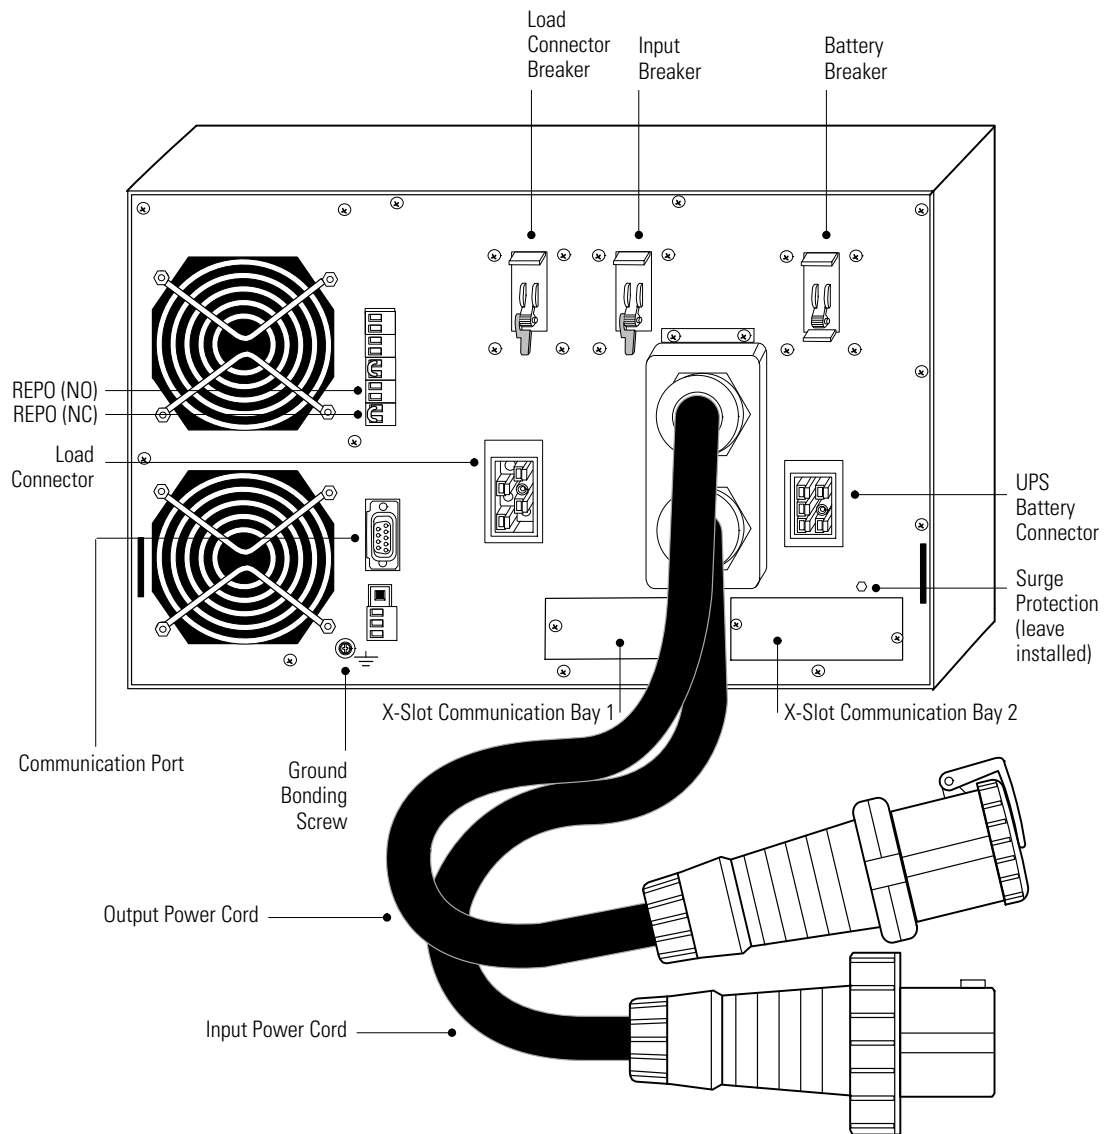

Figure 58. BladeUPS Module Rear Panel (Standalone UPS Shown with IEC 309-60A Output Power Cord)
1. Verify that the circuit breakers on the UPS rear panel are in the OFF (O) position (see Figure 58 on page 71).
4. If your rack has conductors for grounding or bonding of ungrounded metal parts, connect the ground cable (not included) to the ground bonding screw. See Figure 58 for the location of the ground bonding screw.
NOTE Eaton recommends installing the Powerware Hot Sync CAN Bridge Card in X-Slot Communication Bay 2 (see Figure 58 on page 71), leaving Communication Bay 1 available for other types of X-Slot cards.
18. If your rack has conductors for grounding or bonding of ungrounded metal parts, connect the ground cable (not included) to the ground bonding screw. See Figure 58 on page 71 for the location of the ground bonding screw.
NOTE Eaton recommends installing the Powerware Hot Sync CAN Bridge Card in X-Slot Communication Bay 2 (see Figure 58 on page 71), leaving the X-Slot Communication Bay 1 available for other types of X-Slot cards.
12. If your rack has conductors for grounding or bonding of ungrounded metal parts, connect the ground cable (not included) to the ground bonding screw. See Figure 58 on page 71 for the location of the ground bonding screw.